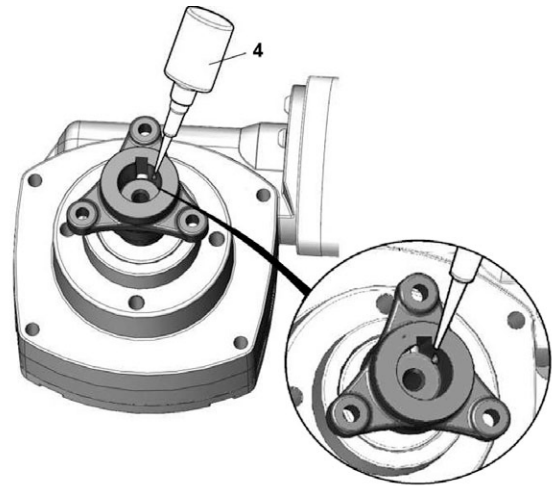

Figure 72. Apply a thin layer of Loctite 638 around the chamfer of the shaft.
6. Apply a thin layer of Loctite 638 around the chamfer of the shaft. See fig. 72.